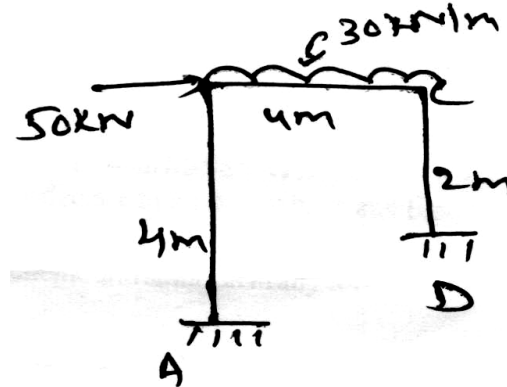

Fig Q9
- 9 Analyse the portal frame shown in Fig Q9 by stiffness matrix method. Draw BMD.